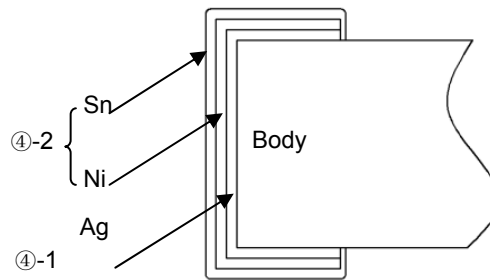

Fig. 4-5
- 4) Structure: See Fig. 4-4 and Fig. 4-5.